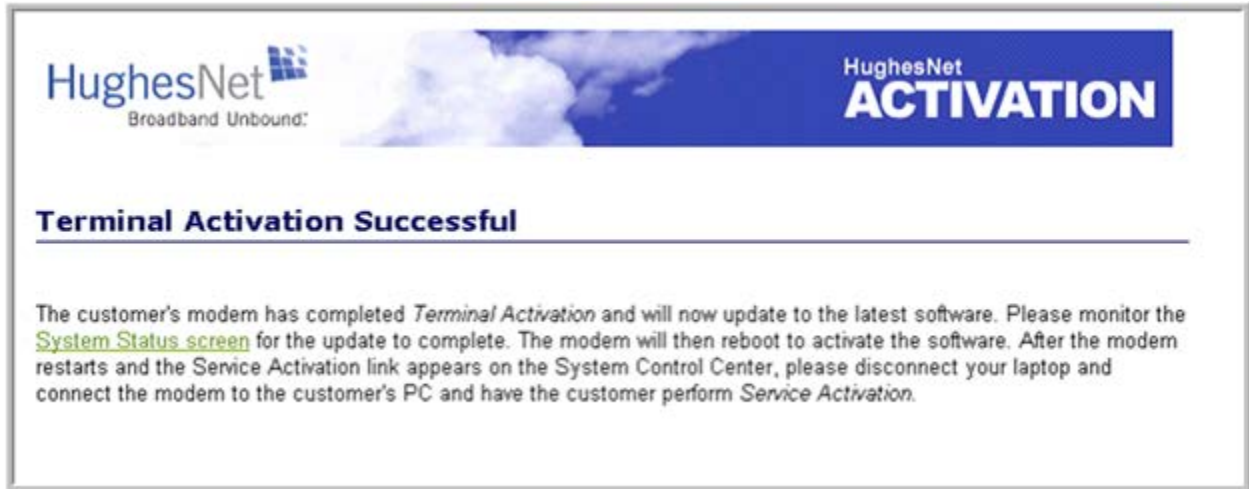

Figure 33: Successful activation screen
1. From the Terminal Activation Successful screen, click the System Status Screen link as shown in Figure 33.